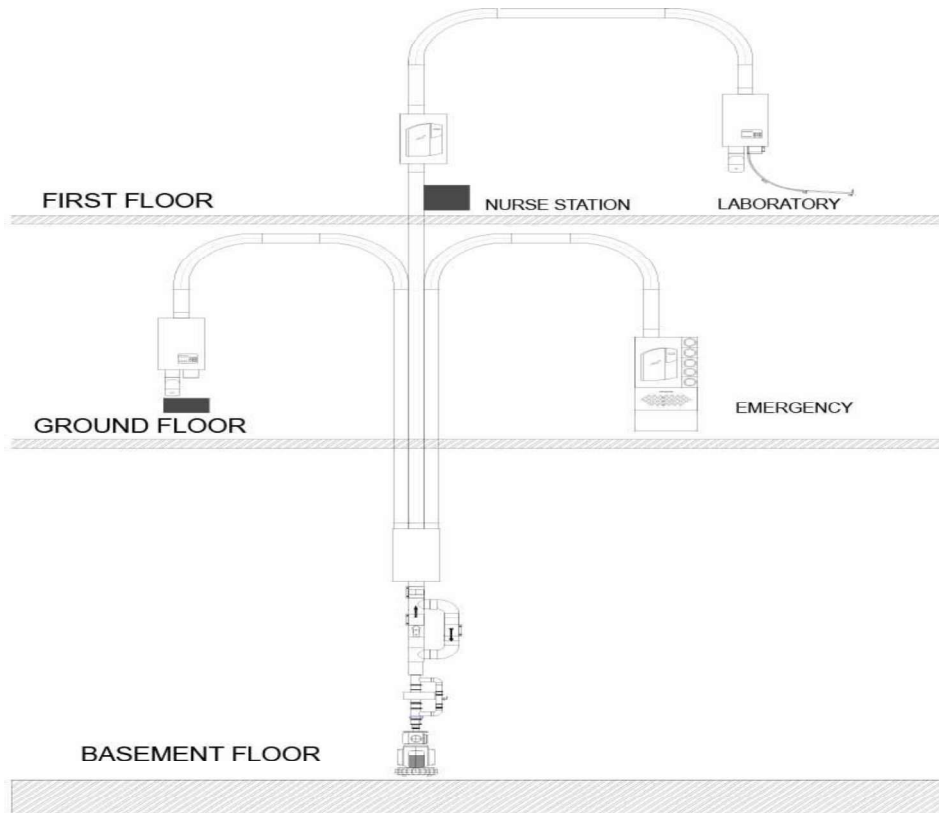

Figure 9.1 – Typical Pneumatic Tube System Layout – Single Zone System
- The PTS can be constructed as a single-zone-system or as a multi-zone-system. The major components of such a system include the blower, tubes, stations, diverters, carriers, and the central control unit that forms the command centre of such a system. Figure 9.1 shows a single zone operation with 4 stations (two stations on the Ground Floor, two stations on the First Floor and the blower and diverter in the basement area).
- Each healthcare facility PTS is designed for its respective facility. Figure 9.1 below shows an example of PTS.